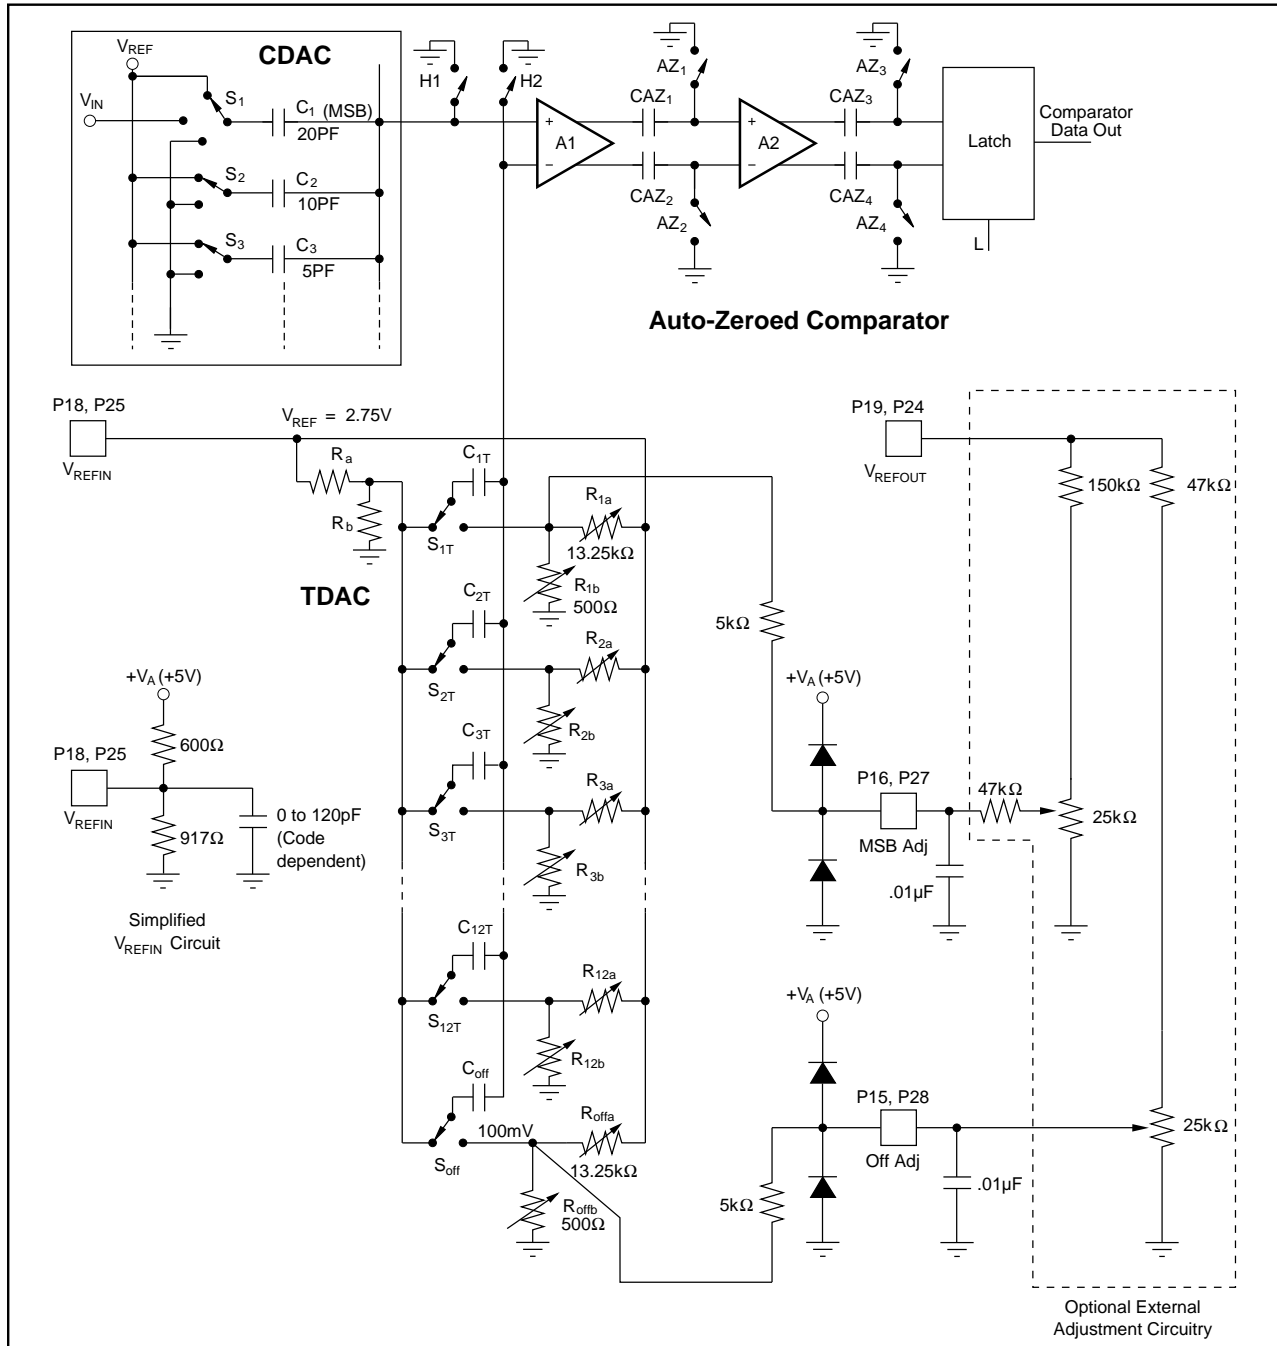
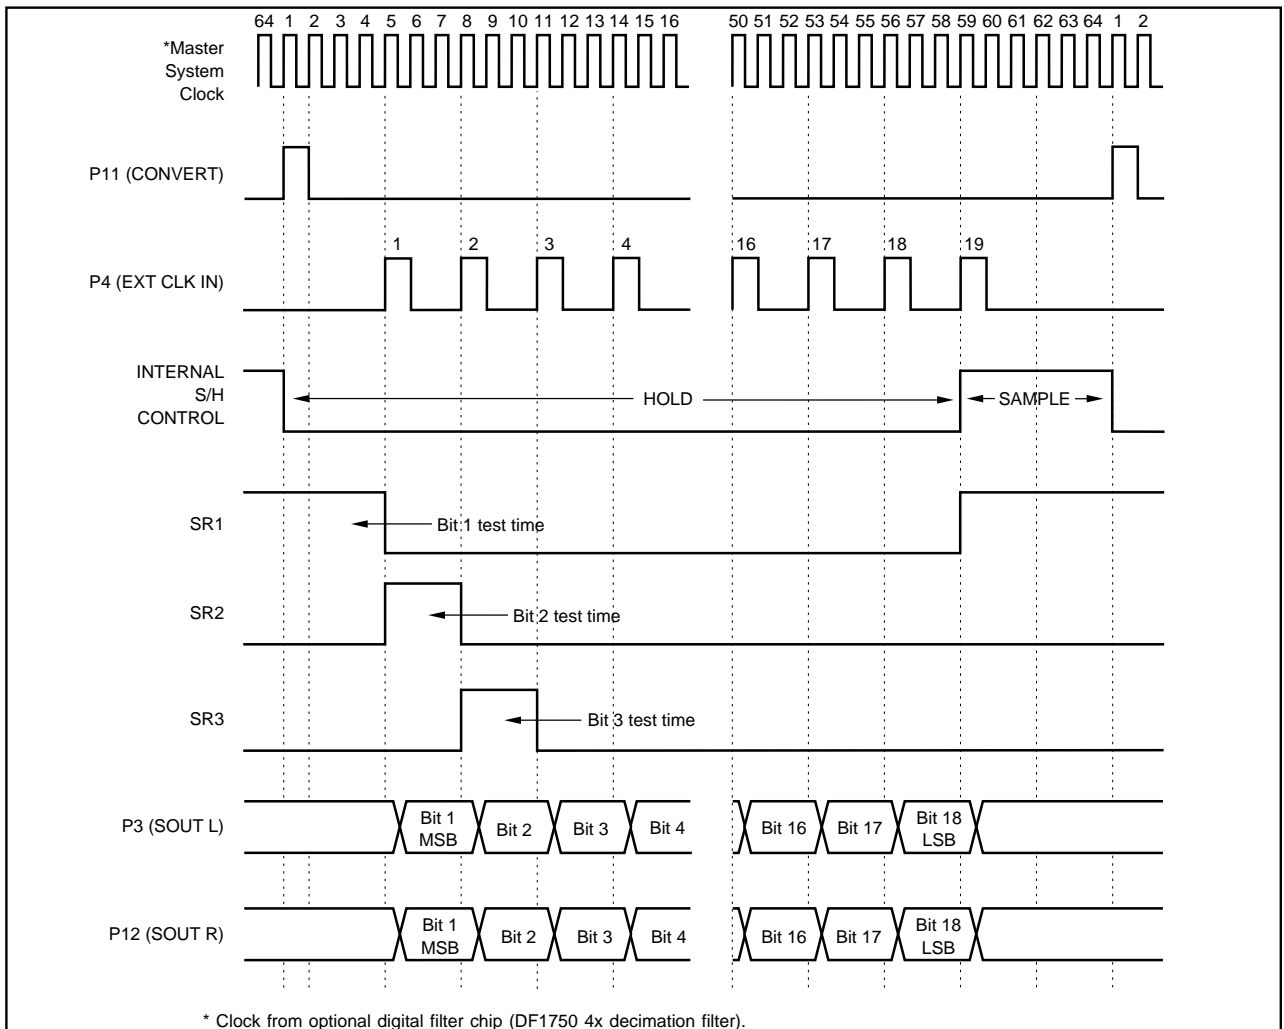

FIGURE 1. PCM1750 Simplified Circuit Diagram.
FIGURE 2. PCM1750 Input/Output Timing Diagram.
NOTES: (1) Binary Two's Complement coding. (2) The PCM1750 is tested and guaranteed at 5.2 μs , however it will operate at 4.5 μs . The dynamic performance is not guaranteed or tested at this conversion rate. (3) Ratio of $Signal_{RMS} / (Distortion_{RMS} + Noise_{RMS})$. (4) A/D converter sample frequency (4 x 48kHz; 4X oversampling per channel). (5) A/D converter input frequency (signal level). (6) Referred to input signal level. (7) Ratio of $(Distortion_{RMS} + Noise_{RMS}) / Signal_{RMS}$. (8) Externally adjustable to zero error. (9) Differential non-linearity error at bipolar major carry input code. Externally adjustable to zero error. (10) Full scale range (5.50V). (11) Refer to equivalent circuit in Figure 1. (12) Worst case operating condition. Refer to typical performance curves.
After each conversion, the dual ADC returns to the SAMPLE mode in order to track the input signals. The switches shown in the simplified circuit diagram of Figure 1 will then be in the following states: S1 connects V_{IN} to C1 ; S2 to S18 connect C2 to C18 to V_{REF} ; H1 and H2 connect the top plates of the capacitor arrays to analog common; and the latching comparator is switched into its auto-zero mode by closing AZ1 to AZ4. Notice that C1 serves two purposes: it samples and stores the input signal V_{IN} and it is the MSB of the CDAC. Storing V_{REF} on C2 to C18 creates a bipolar offset, enabling V_{IN} to cover a span from $-V_{REF}$ to $+V_{REF}$. The $1/f$ noise as well as the DC input offset voltage of the comparator are removed by an autozeroing cycle which
occurs during the SAMPLE period (see the timing diagram shown in Figure 2). These errors are stored on the AC coupling capacitors (CAZ1 to CAZ4, shown in Figure 1) between the gain stages. During the SAMPLE period the inputs to gain stages A1 and A2 and the latch are grounded by switches H1, H2, and AZ1 to AZ4. Capacitors CAZ1 and CAZ2 track the amplified offset voltage of gain stage A1 and capacitors CAZ3 and CAZ4 do the same for A2. At the beginning of a conversion cycle, the autozeroing switches open and the instantaneous amplified value of both the DC offset voltage and the low-frequency flicker noise is stored on the coupling capacitors to produce zero comparator offset during a conversion cycle.
The timing diagram in Figure 2 illustrates the successive approximation routine of the PCM1750. Control signals CONVERT and CLK are derived from a master system clock which comes from a $256f_s$ ($256 \times$ the base sampling frequency of 48kHz) clock used by the optional digital filter. There are 64 clocks shown in the timing diagram because the PCM1750 is shown operating at 4 times the standard 48kHz sample rate (192kHz).
analog common (see Figure 1). This terminates the comparator auto-zero cycle and simultaneously switches (co-phase sampling) both converters from tracking their respective input signals into the HOLD mode, thus capturing the instantaneous value of V_{IN} (with a small delay specified as the aperture time).
For example, the testing of bit-2 proceeds in the following manner. The positive pulse from the second shift register element SR2, (see Figure 2 and 4) is applied to the bit-2 data latch and NOR gate. The NOR gate in turn drives S2 and switches bit-2 at the beginning of the bit-2 test interval. Note that the bit interval must be long enough to allow both the comparator input to settle and the comparator to respond. On
Notice from the timing diagram in Figure 2 that the successive approximation algorithm operates synchronously with an external clock to minimize digitally-coupled switching noise from corrupting either the sample-to-hold operation or the critical comparator bit decisions. The two serial output data streams are derived synchronously from the respective latched comparator outputs and are available after a delay of one CLKIN cycle as illustrated in Figure 2. The serial output driver cells are TTL and CMOS compatible.
Operation of the TDAC (trim DAC), which is laser trimmed at the wafer level, is described using bit-1 as an example. Switch S1T (see Figure 1) operates between two voltage levels—a reference level set by voltage divider Ra, Rb and a laser trimmable level set by R1a, R1b. The differences of these two levels is coupled by capacitor C1T to the minus input of the comparator to generate a correction voltage for